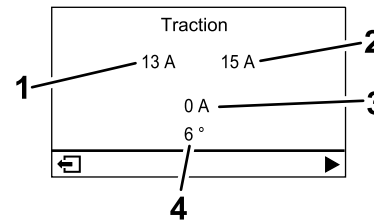

Figure 26
- **Traction motor screen (Figure 26):** shows the current steering angle and the amperage allotted to each traction motor.